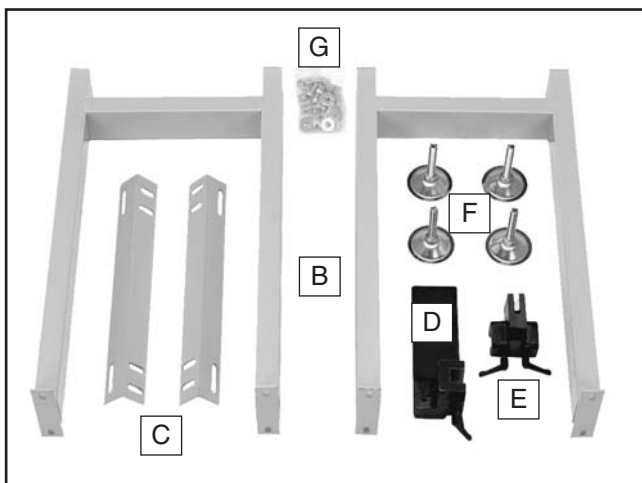

Figure 3. Roller table legs, braces, feet and stops.
Use **Figures 3–4** and the list below to inventory the hardware and components for the Model G0502. If you have any questions, please call our customer service at (570) 546-9663.